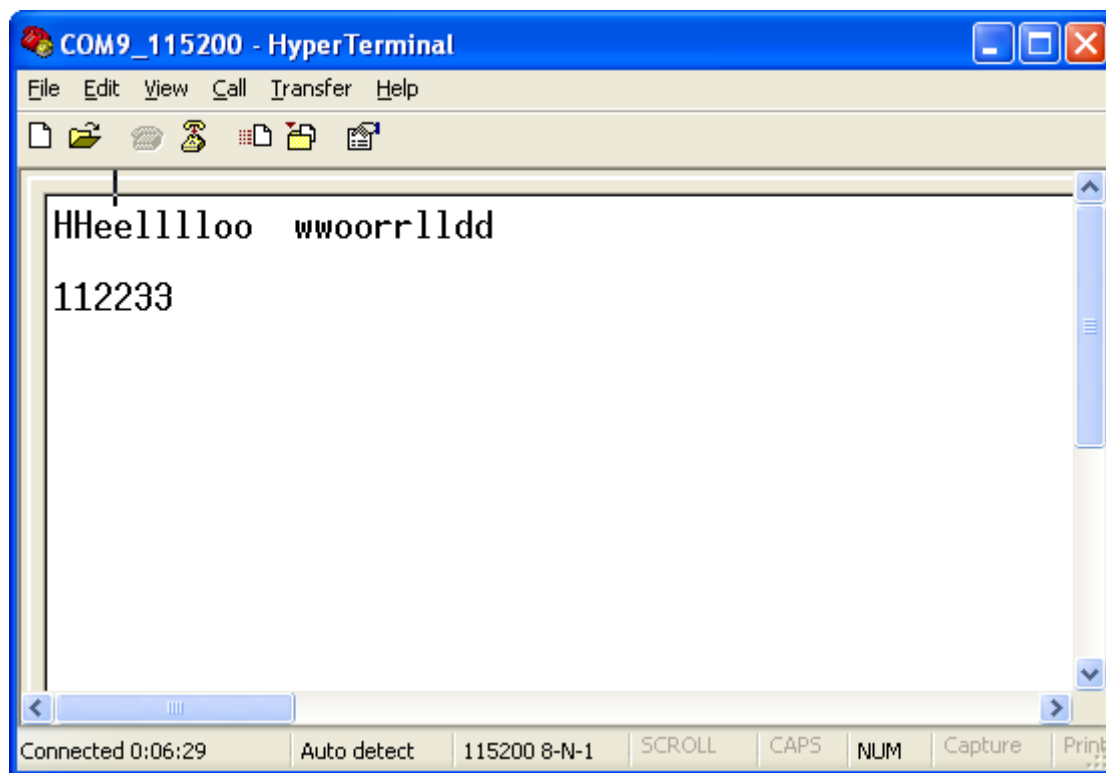

Figure B-4. COM9_115200 - HyperTerminal
- The HyperTerminal is configured now. Whatever is typed will be echoed back from the virtual COM port. Therefore, it appears in duplicate as shown in Figure B-4.